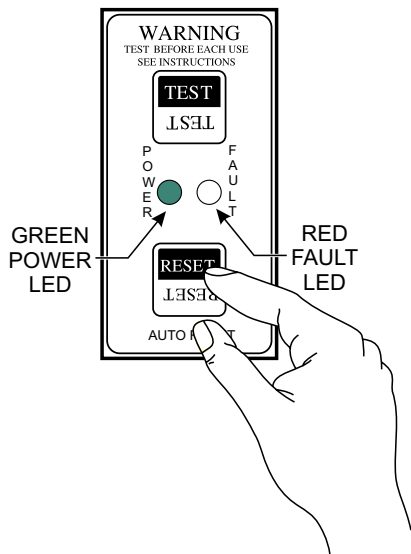

Figure 71. GFCI Sensing Module (Green LED ON Reset)
- To restore power, press the **RESET** button (Figure 71) on the GFCI module and verify that the **RED** fault LED turns **OFF** and the **GREEN** power LED turns **ON**..